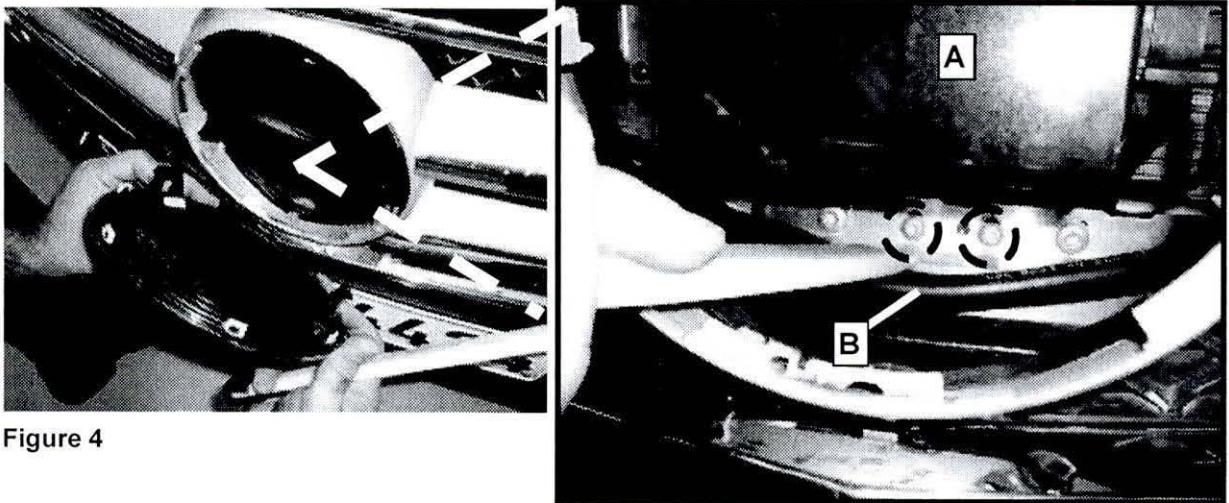

Figure 4
Lower striker bolts (circled, Figure 4) are located below Distronic sensor (A) behind rubber hose (B).